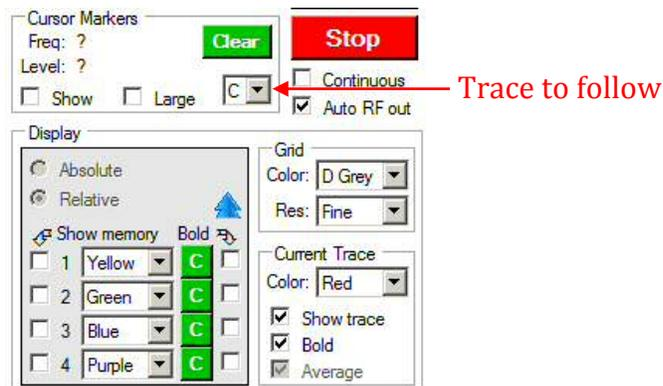

Figure 23. Analyzer memories
Clicking the down arrow in the grey box of the “Display” group will expand the box to show the memories controls. There are four memories that can be used to temporarily store the current trace. These memories are volatile and will be cleared when TPI-Link closes. The trace in each memory can be made visible by checking the box in the “Show memory” column. In addition, the color may be specified for each memory trace. See Figure 23.
The cursor markers may be placed on the current trace (C) or any of the memory traces by changing the selection with the “Trace to follow” control shown in Figure 23. The trace selected must be visible to place a marker on it. The X placed on the trace will be the same color as the trace. This allows you to place the left-click cursor marker on one trace and the right-click cursor marker on a different trace, see which marker is on which trace by its color, and display the difference between their frequencies and/or levels. The difference text will appear in the color indicated by “Color” in the “Markers” group. This group may not be visible if the memory controls are currently expanded.